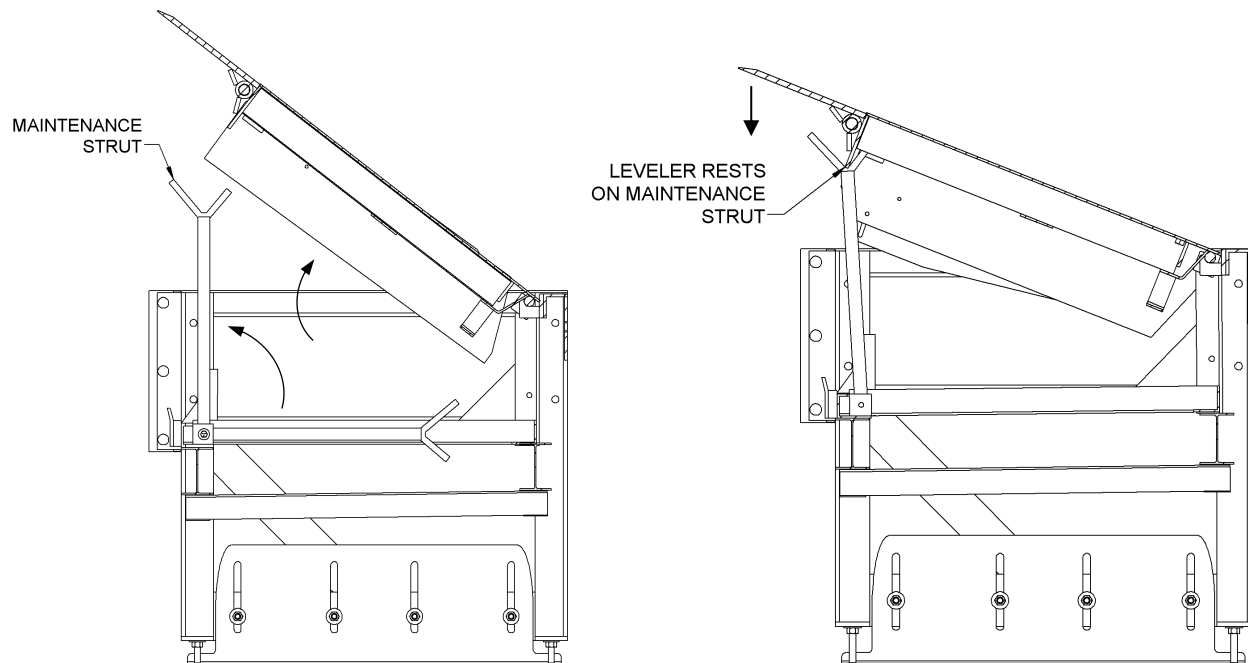

Figure 8: Installing Maintenance Strut
1. Press the UP button to fully raise the leveler platform. The UP button will remain pressed until step 2 is complete. See Figure 8.